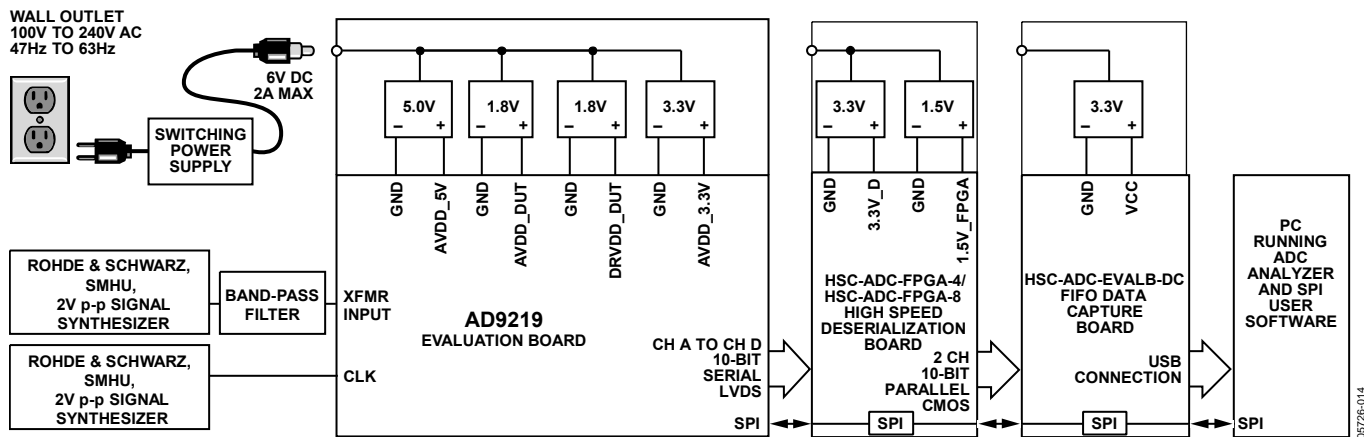
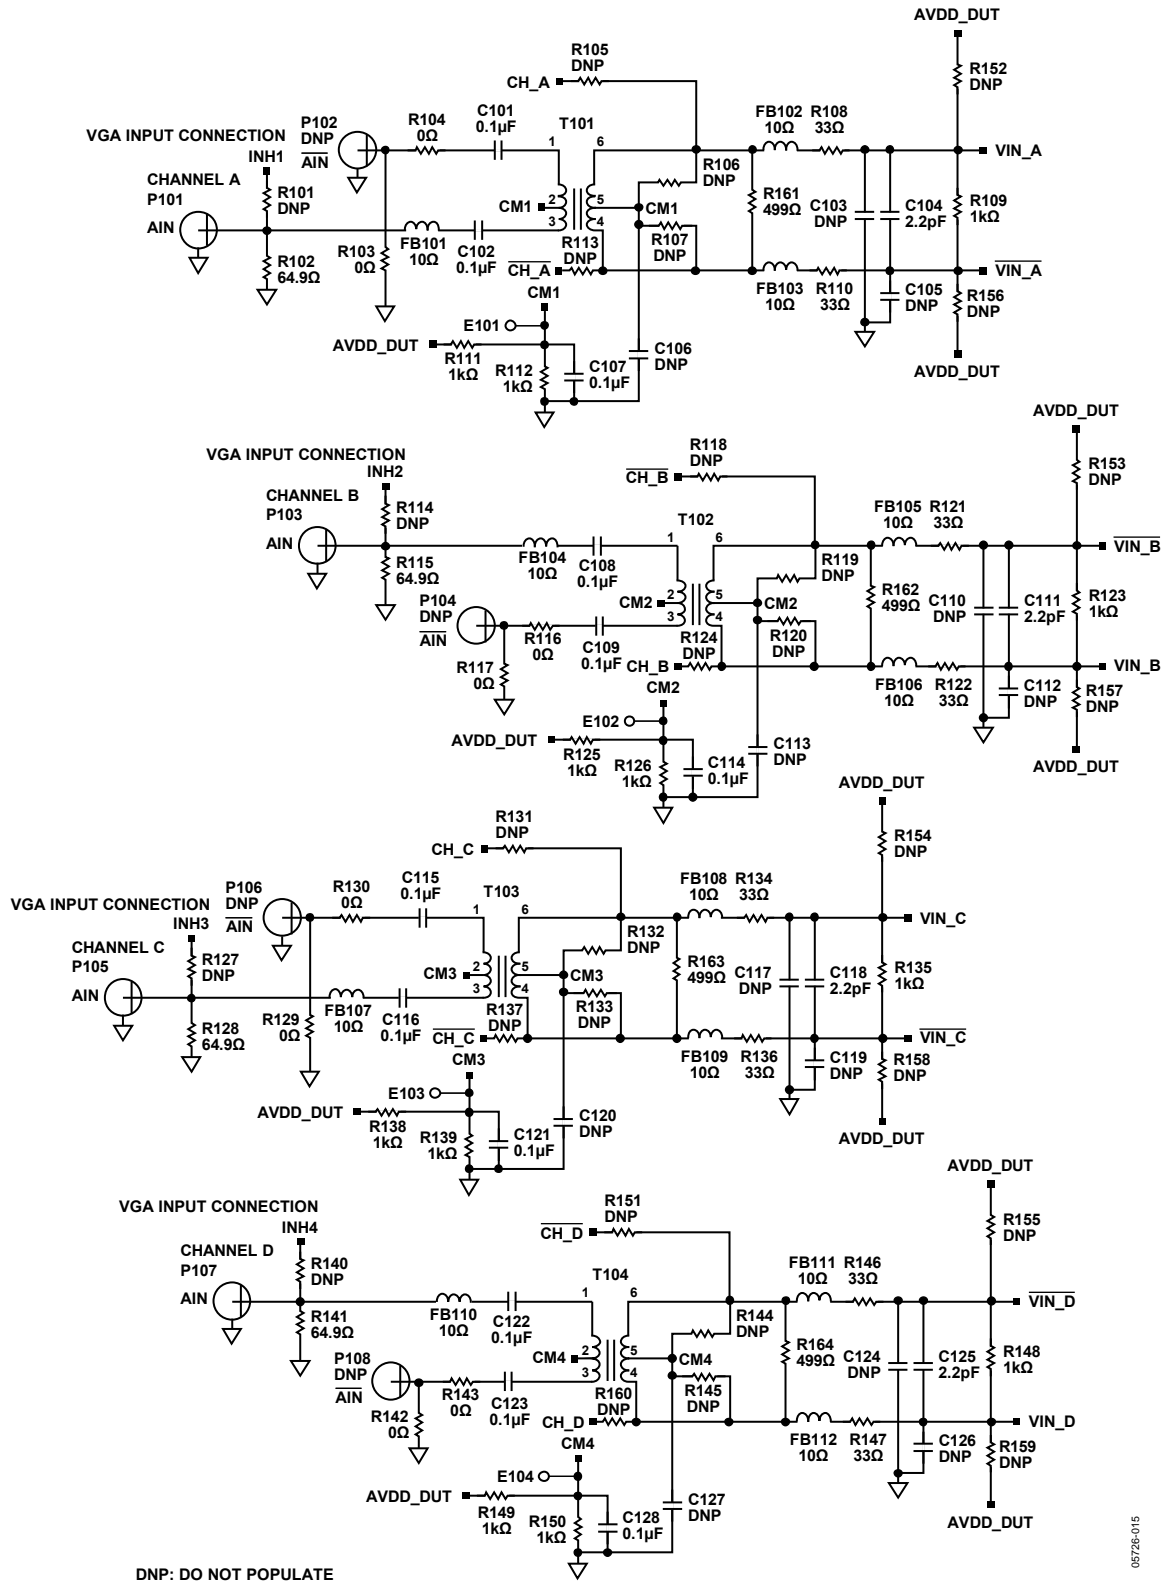
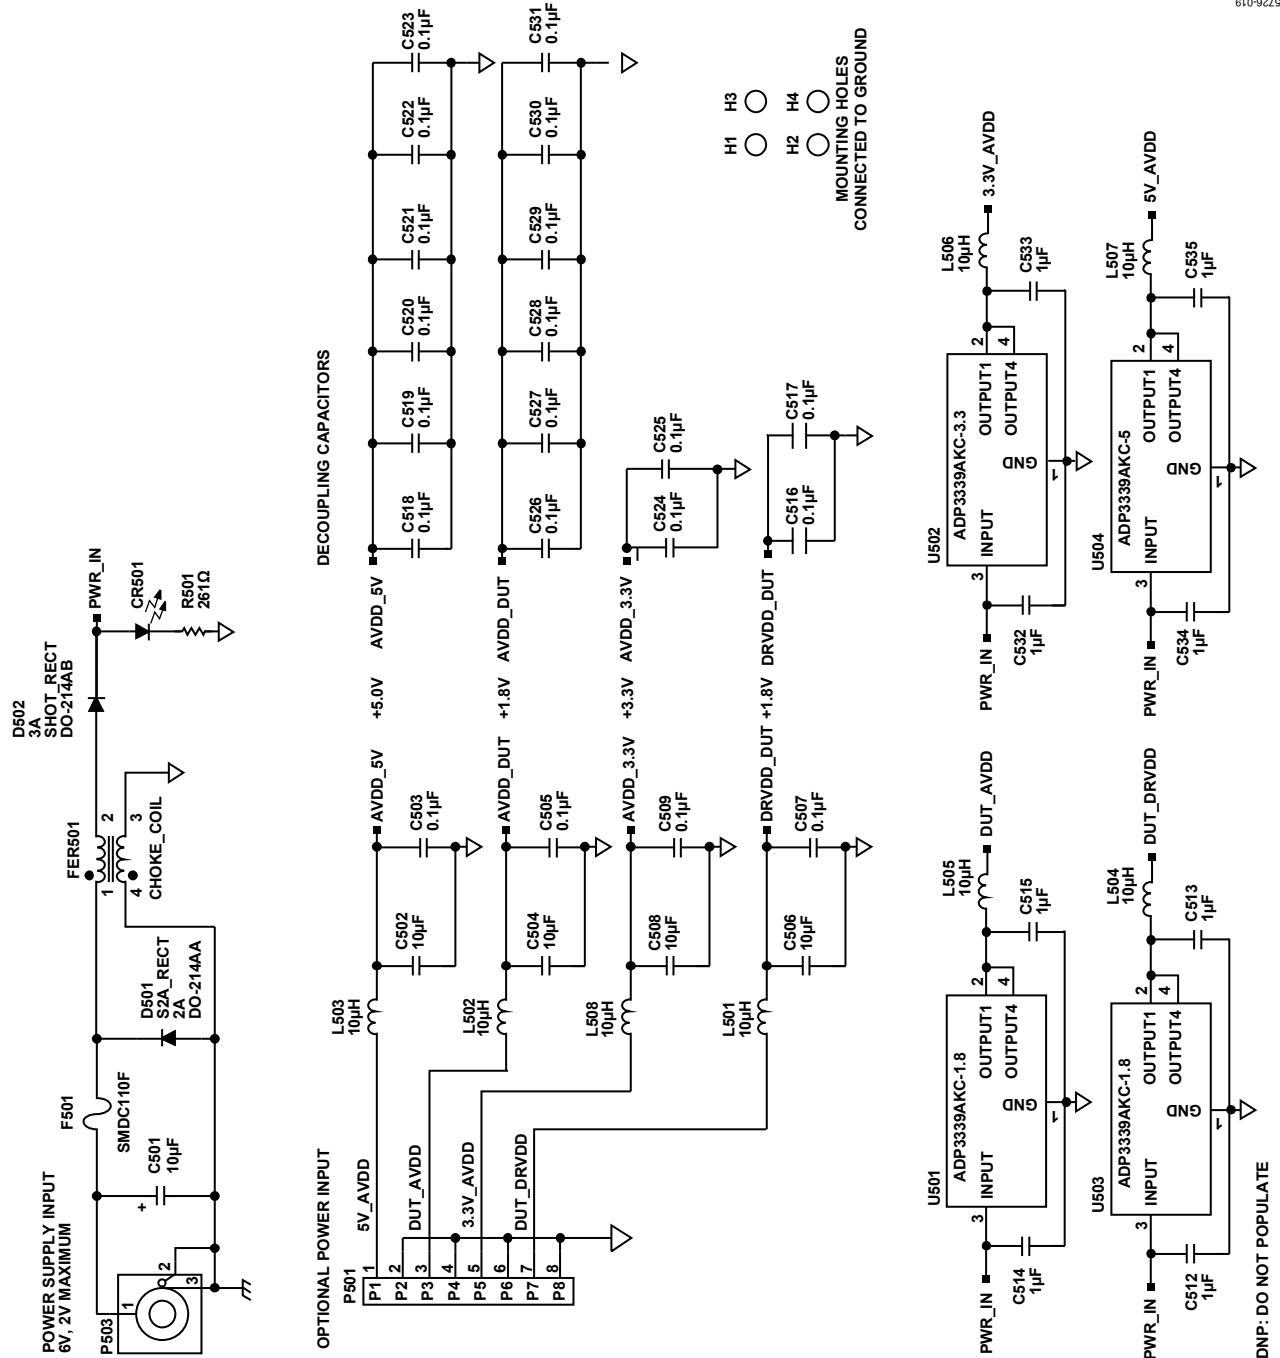

Figure 71. Evaluation Board Connection
Figure 73. Evaluation Board Schematic, DUT Analog Inputs
Figure 77. Evaluation Board Schematic, Power Supply Inputs
The AD9219 evaluation board provides all of the support circuitry required to operate the ADC in its various modes and configurations. The converter can be driven differentially using a transformer (default) or an AD8332 driver. The ADC can also be driven in a single-ended fashion. Separate power pins are provided to isolate the DUT from the drive circuitry of the AD8332. Each input configuration can be selected by changing the connection of various jumpers (see Figure 73 to Figure 77). Figure 71 shows the typical bench characterization setup used to evaluate the ac performance of the AD9219. It is critical that the signal sources used for the analog input and clock have very low phase noise (<1 ps rms jitter) to realize the optimum performance of the converter. Proper filtering of the analog input signal to remove harmonics and lower the integrated or broadband noise at the input is also necessary to achieve the specified noise performance.
See Figure 73 to Figure 81 for the complete schematics and layout diagrams demonstrating the routing and grounding techniques that should be applied at the system level.
- **D + x, D - x:** If an alternative data capture method to the setup shown in Figure 73 is used, optional receiver terminations, R206 to R211, can be installed next to the high speed back-plane connector.